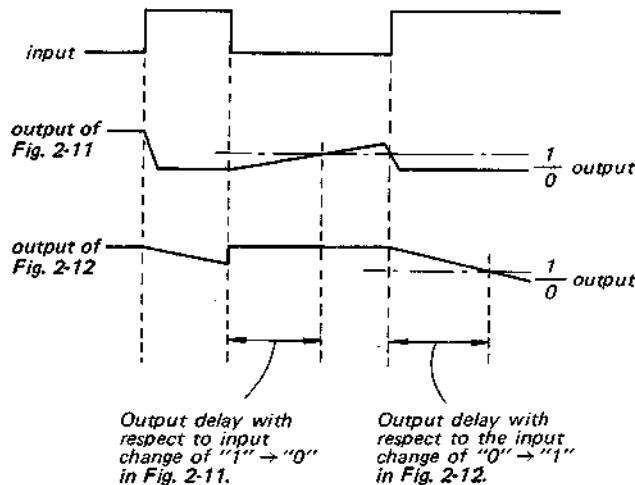

Fig. 2-13
A square wave input applied to these circuits results in a triangular wave output. However, because of the diode (D), the resistor R' will only be included in either the charging or the discharging path of the capacitor and hence the output will be a triangular wave only during the positive or the negative portion of the input wave, depending on the polarity of the diode. The waveforms of these circuits will be as shown in Fig. 2-13 if we assume $R \gg R'$.